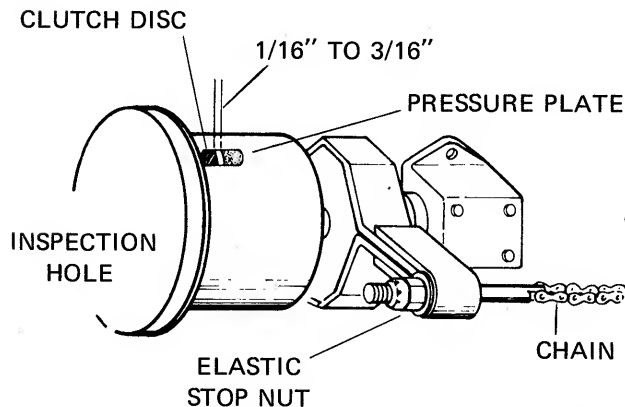

FIG. 12
5. If the distance is not between $1/16$ and $3/16$ of an inch, tighten the nut on the brake band through the hole in the upper left side of the rear frame until the proper clearance is obtained. (see Figs. 12 and 13)